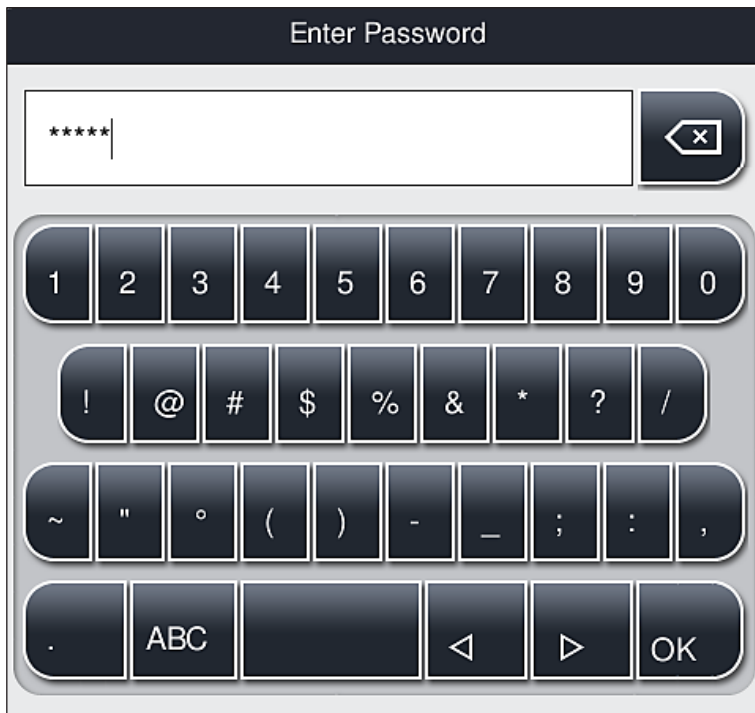

Fig. 25
- 7 Special character shift button (→ Fig. 25)
1. To enter a special character or umlaut, etc. not included in the special character keyboard (→ Fig. 25), hold the corresponding normal button on the keyboard.